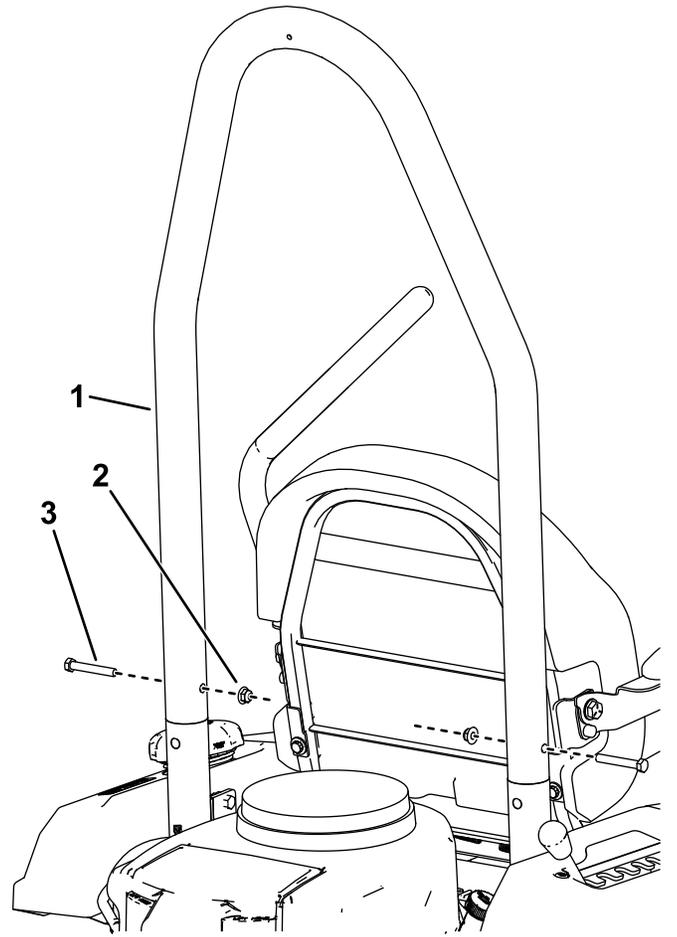

Figure 15
4. With the ROPS tube angle toward the rear of the machine, install the ROPS tube to the ROPS mounts with 2 bolts (3/8 x 2-1/2 inches) and 2 locknuts (3/8 inch) as shown in Figure 15.